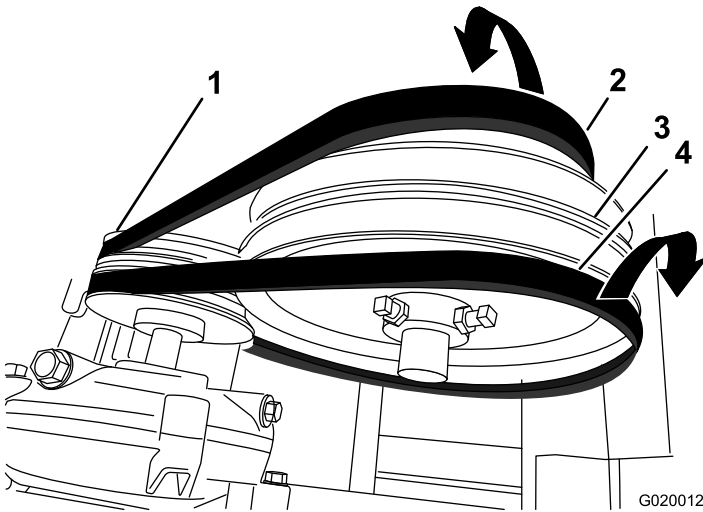

**Figure 72**
3. Remove the bolt that secures the belt guide to the engine, and remove the belt guide (Figure 72).
- 7. Loosely secure the belt guide to the engine (Figure 72) with the bolt that was removed in step 3 of Removing the Belts (page 40).